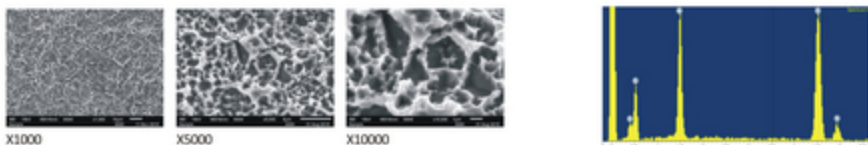

Figure 1. Surface Treatment of Anker Dental Implants with individual magnifications
1. Anker Dental Implants uses the S.L.A (Sandblasted, Large Grit, Acid etched) surface treatment process, which is clinical proven and has a long solid track record of success. We have additionally developed our own patented SLA-CaP (Calcium Phosphate) surface treatment process to further improve osseointegration and increases primary stability, which is evident in our clinical data. This is especially advantageous for patients with certain medical conditions which requires a speedier recovery process during implant placement treatments. From SEM observations shown on Figure 1, we can see that our surface treatments has a more uniform distribution which is crucial for osseointegration and better BIC (Bone-Implant-Contact) results.